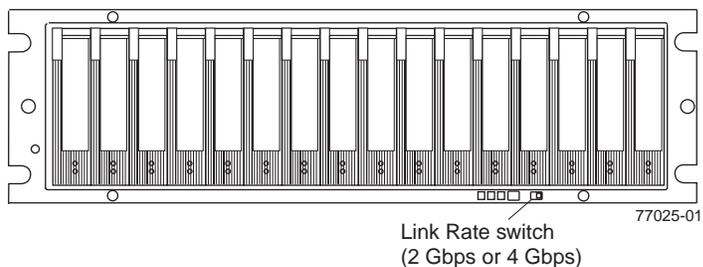

Figure 46. Link rate switch
A Link Rate switch is located on the front of the storage expansion enclosure as shown in Figure 46 on page 88. The Link Rate indicator LEDs are located on the back of the storage expansion enclosure. The Link Rate switch enables you to select the data transfer rate between the ESMs and the drives to either 2 Gbps or 4 Gbps. The Link Rate switch is only read when the storage expansion enclosure is powered up.
4. Locate the Link Rate switch. Figure 46 shows the location of the Link Rate indicator light on the front of the command module.